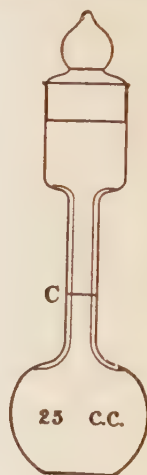

FIG. 9.
c. If the substance you have to investigate is a **solid insoluble in water**, such as chalk (calcium carbonate [**C** 573; **I** 725], *not* black-board crayon, which is mainly calcium sulphate [**C** 577; **I** 731]), you use a pycnometer of a different type, shown in Fig. 9. As before, find the weight of this (a) when empty, and (b) when filled with water to the mark C. Next powder up some of the solid very finely in a mortar, introduce a few c.c. of the powder into the empty and